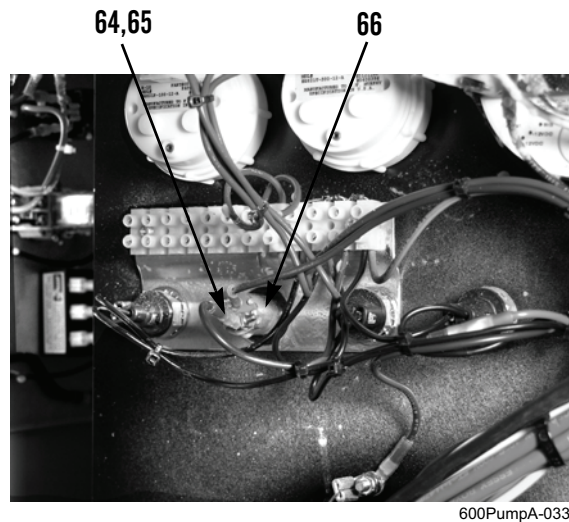

Figure 20. Oil Pressure Bypass Switch (Back of Panel).
1. Remove two screws (Figure 20, Item 64) and disconnect two wires (Figure 20, Item 65) from oil pressure bypass switch (Figure 20, Item 66).
2. Connect two wires (Figure 20, Item 65) and install two screws (Figure 20, Item 64) on oil pressure bypass switch (Figure 20, Item 66).